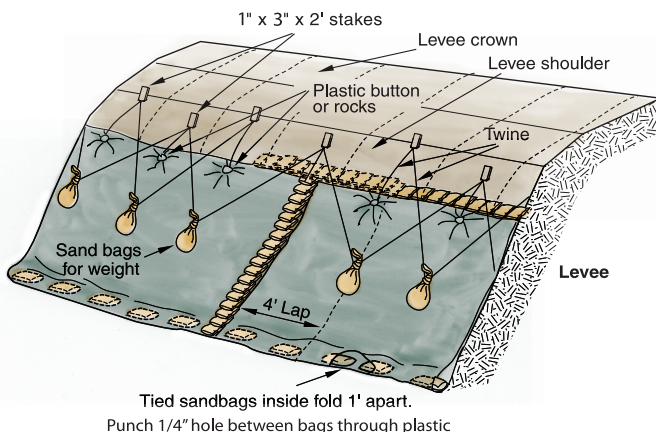

Figure 10: Wavewash Protection
- Place the stakes 4 feet apart and stagger vertically by 1 foot as shown in Figure 10.
Team 4-Using a continuous piece of twine, hang tied bags from stakes in a zigzag fashion or "V" fashion as shown in Figure 10.
- To prevent slippage, make sure the sandbags forming the to seam cap are half on the plastic and half on the levee as shown in Figure 10.